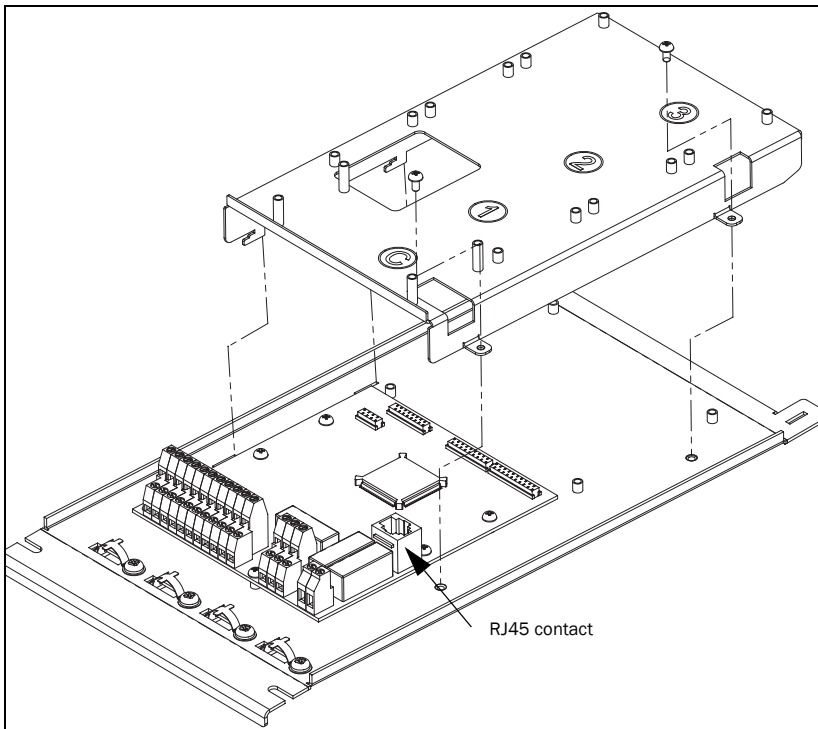

Fig. 3 Mounting the option mounting plate on the control board
3. Jack the option mounting plate on to the control board mounting plate as shown in Fig. 3. It can only be turned in one direction.